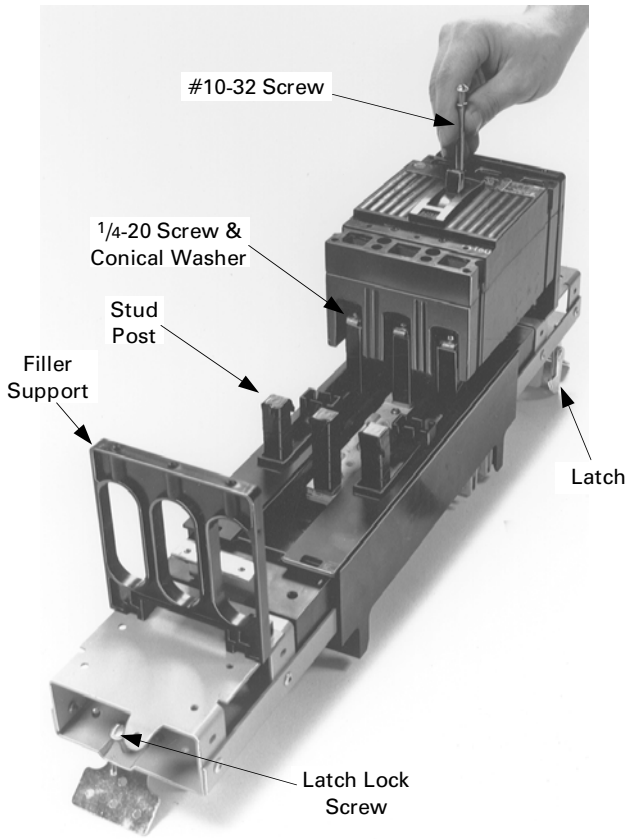

Figure 4. Installing the breaker on the module.
- 3. Install the circuit breaker.** Place the ON side of the breaker over the stud posts, as shown in Figure 4. Fasten the breaker to the module with 1/4-20 x 3/4" screws with conical washers and #10-32 x 2 3/4" screws. After all screws are in place, tighten the 1/4-20 screws to 40–50 in-lb and the #10-32 screws to 25–30 in-lb.